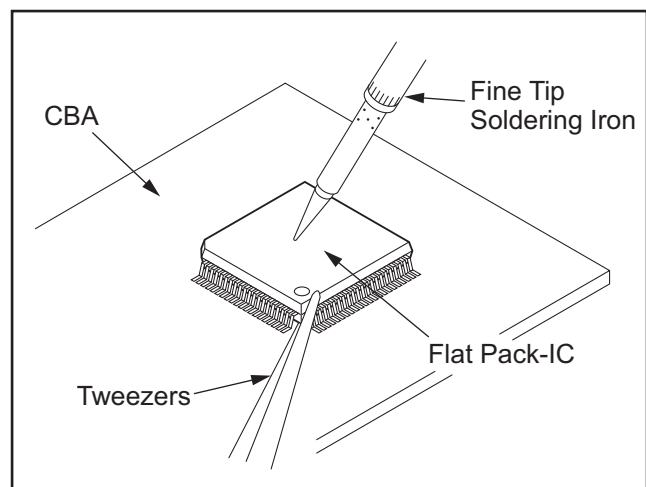

Fig.6
- Bottom of the flat pack-IC is fixed with glue to the CBA; when removing entire flat pack-IC, first apply soldering iron to center of the flat pack-IC and heat up. Then remove (glue will be melted). (Fig. 6)
- Release the flat pack-IC from the CBA using tweezers. (Fig. 6)
- (3) Bottom of the flat pack-IC is fixed with glue to the CBA; when removing entire flat pack-IC, first apply soldering iron to center of the flat pack-IC and heat up. Then remove (glue will be melted). (Fig. 6)
- (4) Release the flat pack-IC from the CBA using tweezers. (Fig. 6)
- (4) Bottom of the flat pack-IC is fixed with glue to the CBA; when removing entire flat pack-IC, first apply soldering iron to center of the flat pack-IC and heat up. Then remove (glue will be melted). (Fig. 6)
- (5) Release the flat pack-IC from the CBA using tweezers. (Fig. 6)